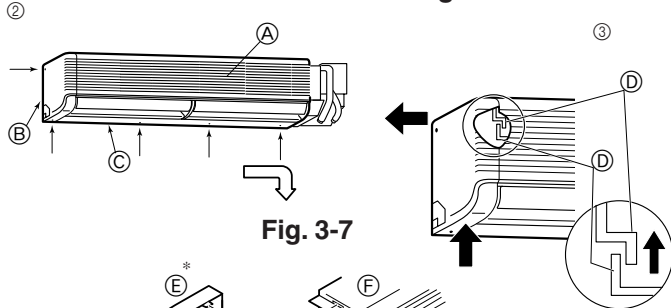
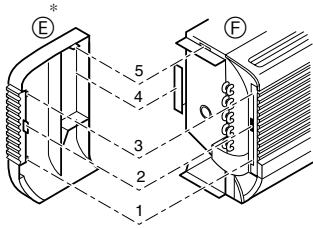

Fig. 3-7
Fig. 3-8
- Ⓓ Wall-fixing bracket ①
- ② Remove the five screws indicated by the arrows in the diagram. (Fig. 3-7)
- ③ Remove the left side panel, then the lower panel.
* Structure of the side panel and the unit body (Fig. 3-8)